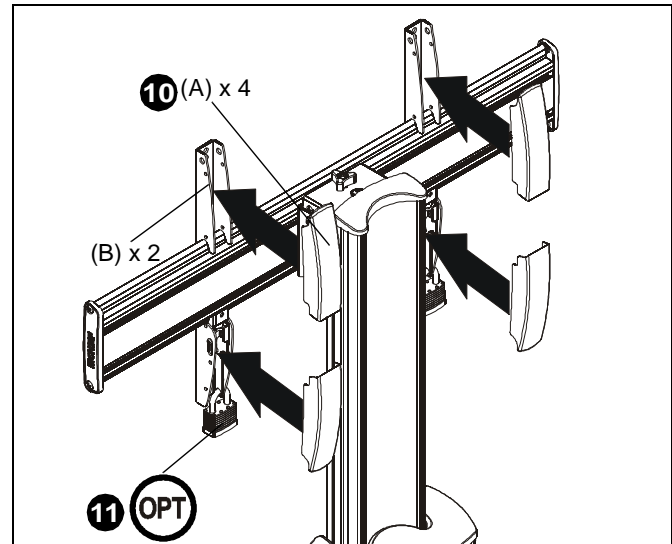

Figure 9
10. Snap four upright covers (A) onto uprights. (See Figure 9)
11. (Optional) Use padlocks (not provided) to secure uprights to head assembly. (See Figure 9)